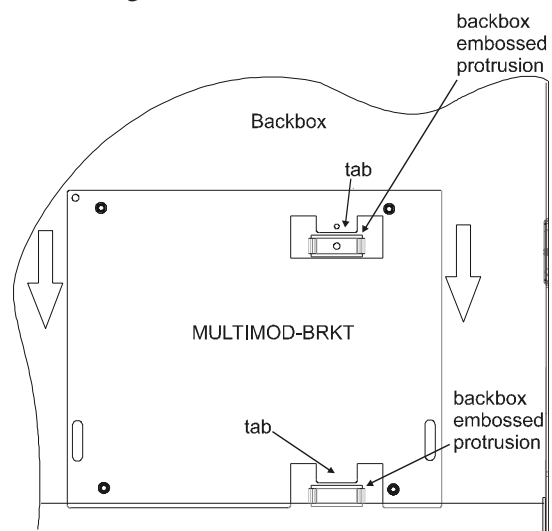

Figure 1
1. Placing the MULTIMOD-BRKT mounting bracket flat against the inside back wall of the FACP backbox, position both bracket mounting tabs above the two embossed protrusions located in the lower right corner of the backbox as illustrated in Figure 1.